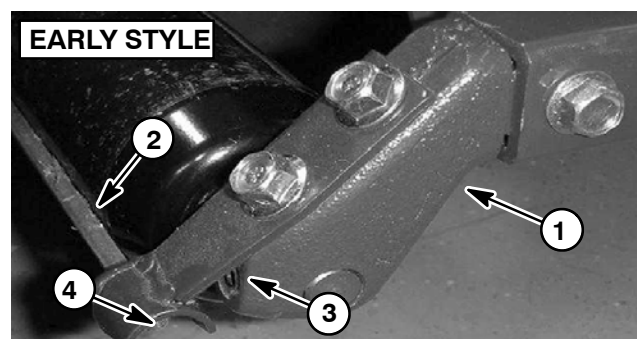

Figure 14
A. If equipped with early style roller scraper (Fig. 14), loosen one locknut that secures roller scraper rod to mounting bracket.
B. Remove fasteners securing left and right scraper rod brackets to roller mounts (Figs. 14 and 15).
3. Remove four (4) mounting screws securing roller mounts to rear of deck frame. Remove roller mounts and rear roller assembly from deck frame.